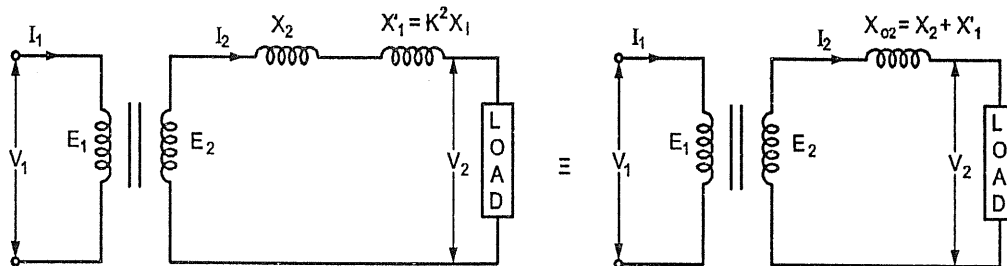

FIG. 3.25 : TRANSFERRING PRIMARY REACTANCE TO SECONDARY
- Let the Primary reactance X_1 be transferred to the secondary and the new value of this reactance is X_1' . This transferred reactance X_1' is called equivalent reactance of primary as referred to the secondary as shown in Fig. 3.25.